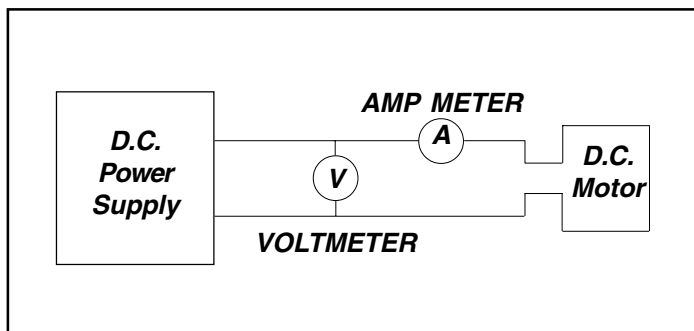

Figure 4-22: Electrical Test Circuit
3. If the motor turned freely, connect an ammeter in the circuit as shown in Figure 4-22. With rated voltage applied and the shaft running free, the ammeter should read less than 20% of the nameplate full load current. If the motor meets the above conditions then it can be assumed that the original problem is external to the motor.